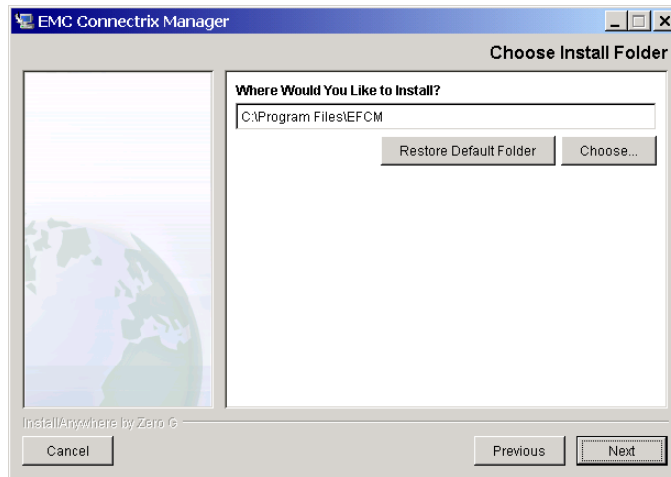

Figure A-10 Connectrix Manager Installer — Select Install Folder
13. Click **Next**. This displays the window shown in Figure A-10.